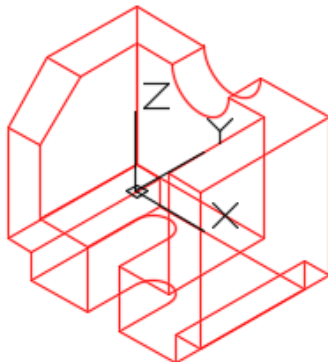

Figure Step 8
Step 8 Rotate the model 90 degrees around the X axis. (Figure Step 8)